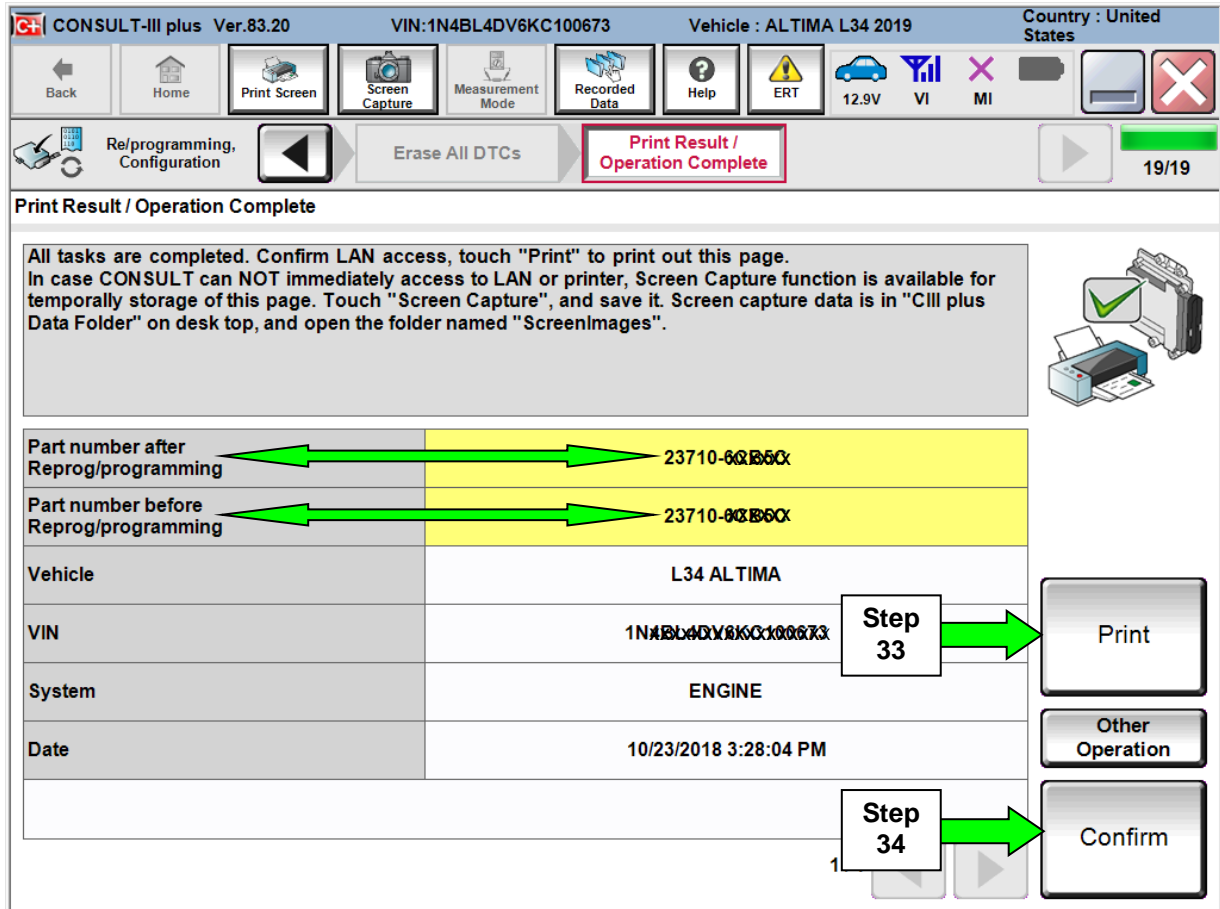

Figure 25
33. Print a copy of this screen (Figure 25) and attach it to the repair order.